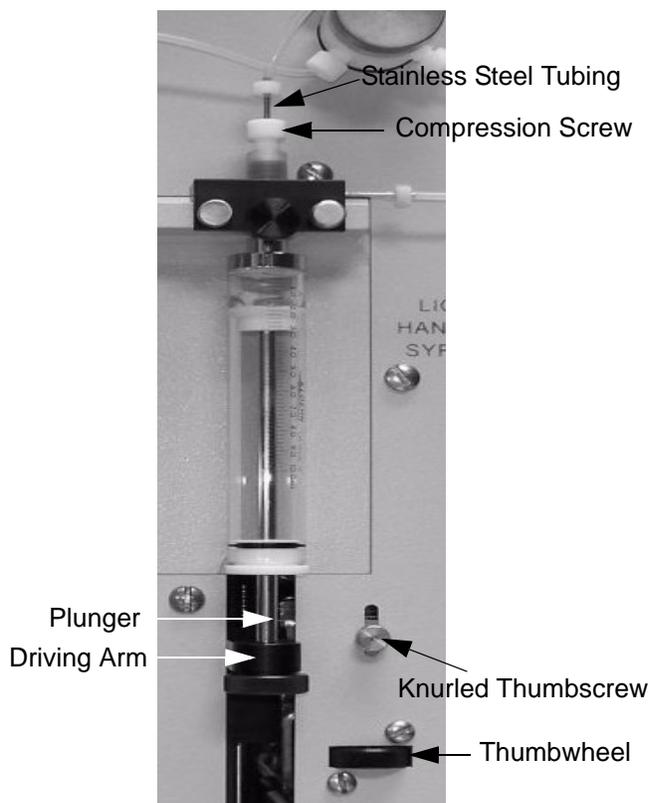

Figure 70. Syringe Knurled Thumbscrew
- 1 Loosen the knurled thumbscrew approximately two turns, as shown in Figure 70.